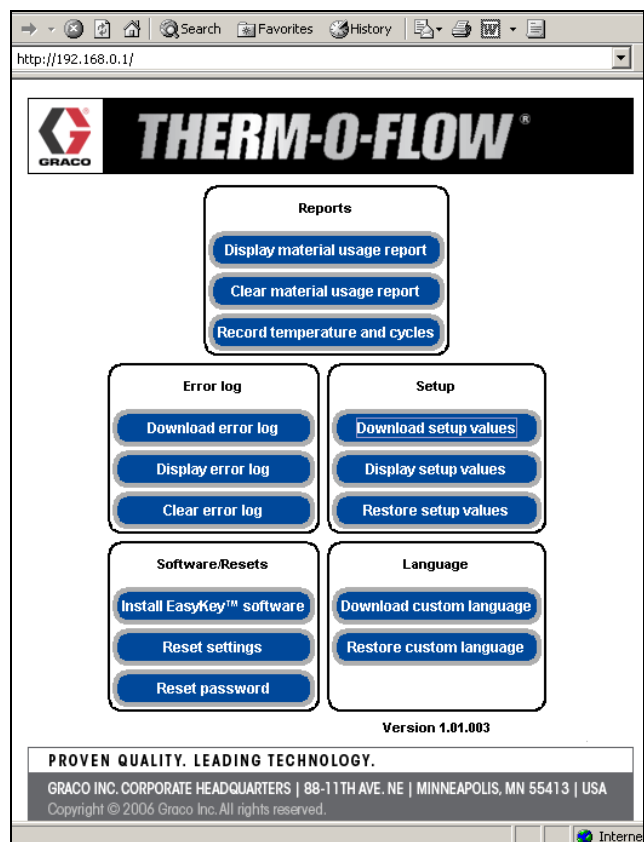

FIG. 30: Main Software Screen
5. Main software screen appears. See FIG. 30.
From the main screen (see FIG. 30) the operator can select buttons for reports, error log, setup, software/resets, or language.